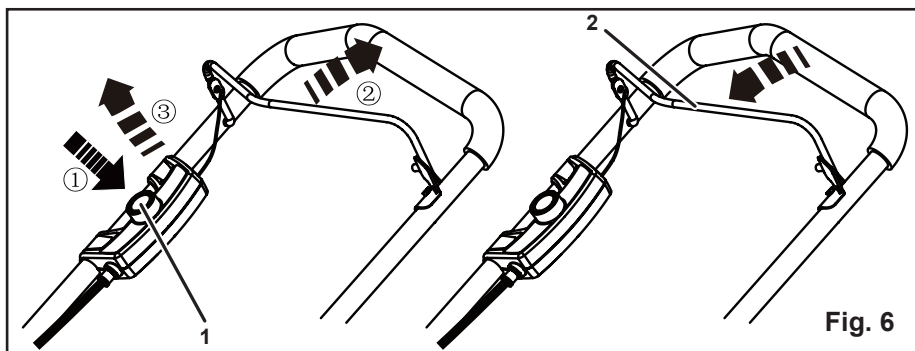

Fig. 6
- Press and hold the safety lock-out button (1). (See Fig. 6)
- Pull the bail switch (2) upward to the handle to start the mower and release the button.